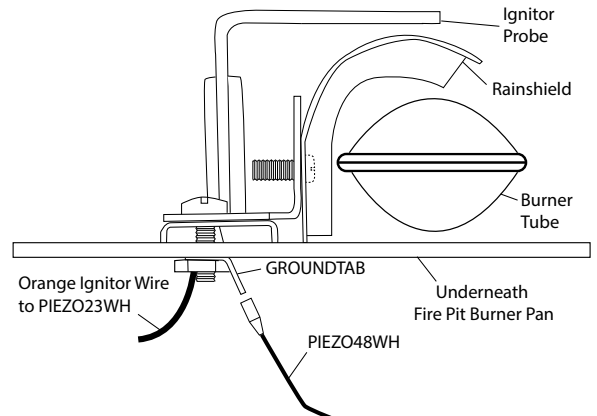

Fig. 11 Installing ground tab to pan/disc.
NOTE: If the screws from the probe assembly will not slide through the holes easily you can use the existing thread cutting screws removed from the metal cover in step 1. If you are using the screws and nuts from the probe assembly then temporarily secure one screw with one of the nuts previously removed. Ensure the assembly sits flat against the fire pit pan. See Fig. 11.
Step 3: Install the Ground Tab on the remaining screw (without nut) and secure. See Fig 11. **NOTE:** If you used the thread cutting screws to secure the probe assembly then secure the ground tab in any existing drain hole in the pan.
CAUTION: Ensure the probes are not touching the rainshield or the Piezo will not spark at the tip of the probes. If necessary you can adjust the rainshield by loosening the screw inside the rainshield bracket, pushing it down and re-tightening the screw. Fig.11 shows proper spacing of probe to rainshield